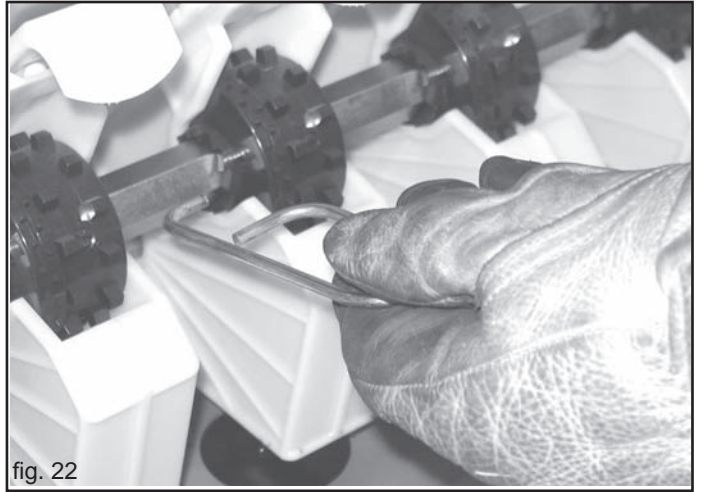
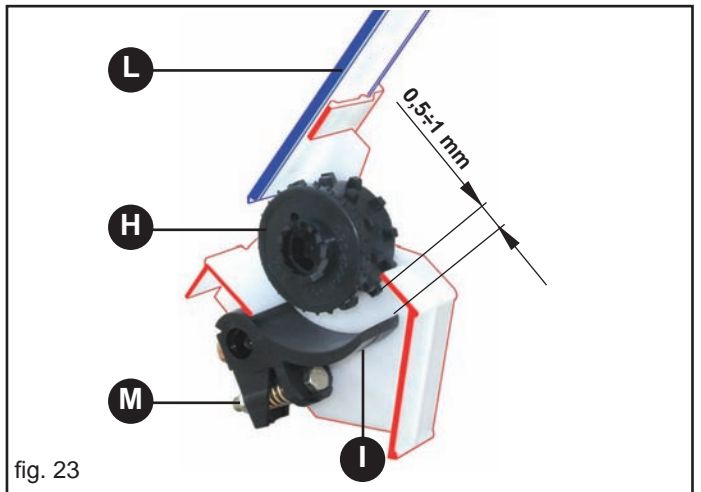
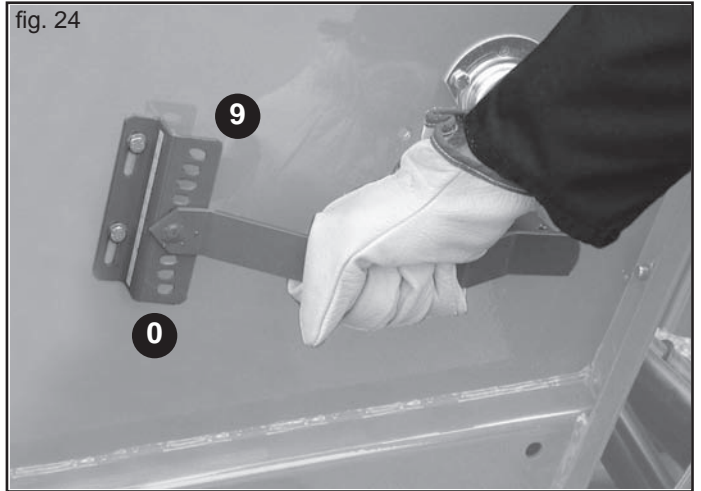

fig. 22
fig. 23
fig. 24
The sliding doors (L, Fig. 23) for the discharging of the seeds from the hopper, have **three adjustment positions** (Fig. 21):
The most appropriate type of seed distributor roller must be selected prior to sowing on the basis of the type of seed being drilled (H, Fig. 23). The machine is fitted with rollers for small, medium and large seeds. Select the type of distributing roller according to the information given in *Table 4*. Which is selected by inserting the key (Fig. 22) into the slot on the left side of the roller and push the drag retainer all the way out. Perform the a.m. operation in inverse order to return the roller to its initial position.
The feeler adjustment lever (Fig. 24) is positioned on the left side of the machine and works according to a graduated scale that runs from 0 - 9 settings. The lever must be set to the number indicated by the sowing table on the basis of the type of seed to be sown. If the feelers (I, Fig. 23) are correctly positioned, they assure a fluid and constant distribution of the seeds.
For best seeding results, periodically check the position of the feeler pins (I): adjust the distance between the feeler and the distributor roller (H) by means of the nut (M) to $0,5 \div 1$ mm (Fig. 23).